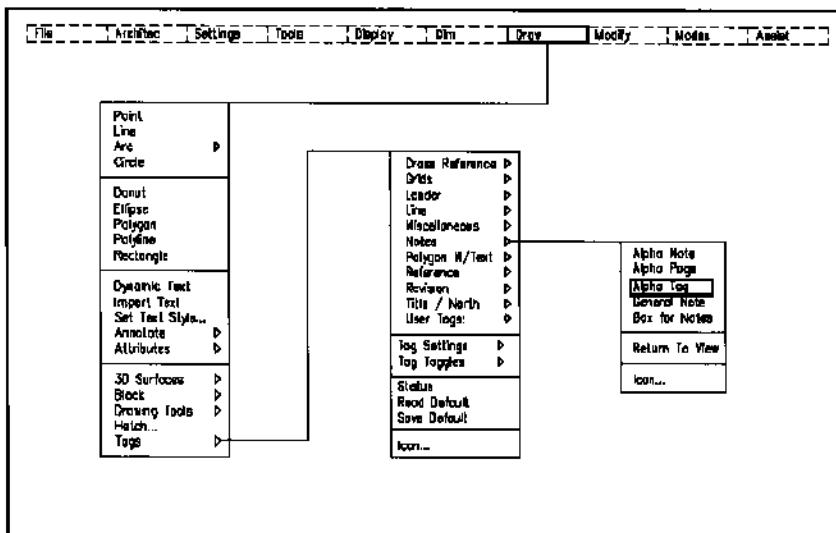
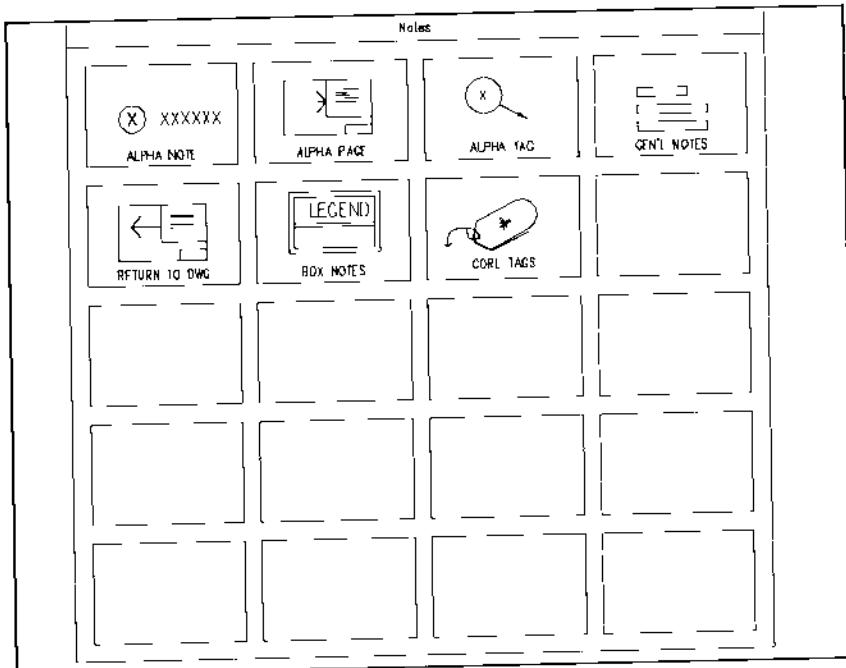

Figure 17.
Figure 18
2. Select Tags, then Notes, from the Draw pulldown menu, as shown in Figure 17, or the icon menu shown in Figure 18, to place an Alpha Tag into the drawing.
2. Select Alpha Note from the Notes submenu, or Notes icon menu shown in Figure 18, then pick a location for the tag in the WALL NOTES box. Type the following text after the circle appears: